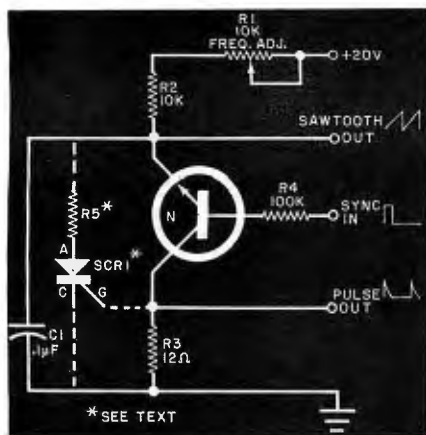

Fig. 2. Sawtooth and pulse generator. SCR circuit increases output.
**Applications.** A useful circuit employing the negistor is the sawtooth and pulse generator shown in Fig. 2. Output frequency is determined primarily by  $R_1$ ,  $R_2$  and  $C_1$ . The current through the negistor is limited by  $R_2$ , which also sets the maximum fre-